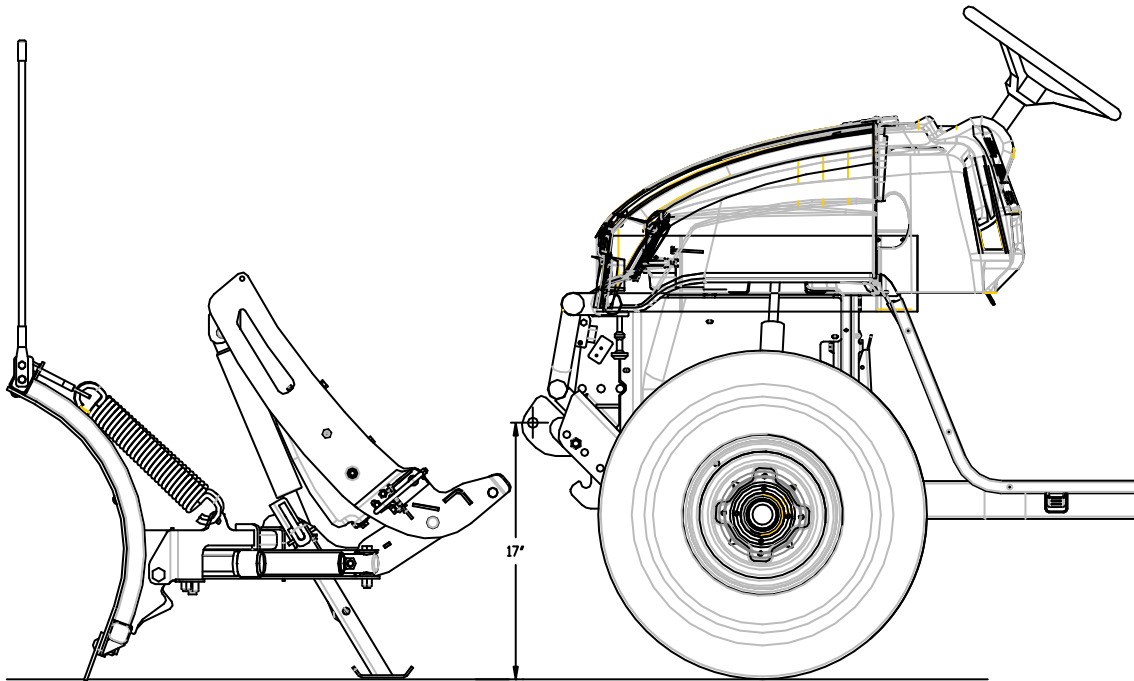

Figure 2
3. Align the holes in the Skid Plate Assembly (75) with the holes in the Front Bumper. Using (4) M12x1.25-45mm bolts (B), attach the Skid Plate. Leave finger tight.
4. Align the holes in the back of the Skid Plate Assembly (75) with the holes in the Front Axle Skid Pan.
**On 2013 and older Kubota 900 and 1140 models:** using (2) M10x1.25-35mm bolts (A), attach the Skid Plate Assembly (75). Leave finger tight.
**On 2014 and newer Kubota X900, X1100, and X1120 models:** using (4) M12x1.25-30mm bolts (G), attach the Skid Plate Assembly (75). Leave finger tight.
5. Using ½"-13 X 1-1/2" Hex Head Bolts (D) and ½" Nylon Lock Nuts (F), attach Mount Brackets (62A & 62B) to the bottom of the Skid Plate Assembly (75).
NOTE: The proper height adjustment for the Pushbeam (62) is approximately 17" from the ground to the center of Pushbeam (62) pin-receiving hole (See Figure 2) for Plow System.
6. Using 3/8"-16 X 1" Hex Head Bolts (C) and 3/8"-16 Nylon Lock Nuts (E), mount Pushbeam Assembly (62) between Mount Brackets (62A & 62B).
7. Using ½"-13 X 1-1/2" Hex Head Bolts (D) and ½"-13 Nylon Lock Nuts, secure the Pushbeam Assembly (62) to Skid Plate Assembly (75).